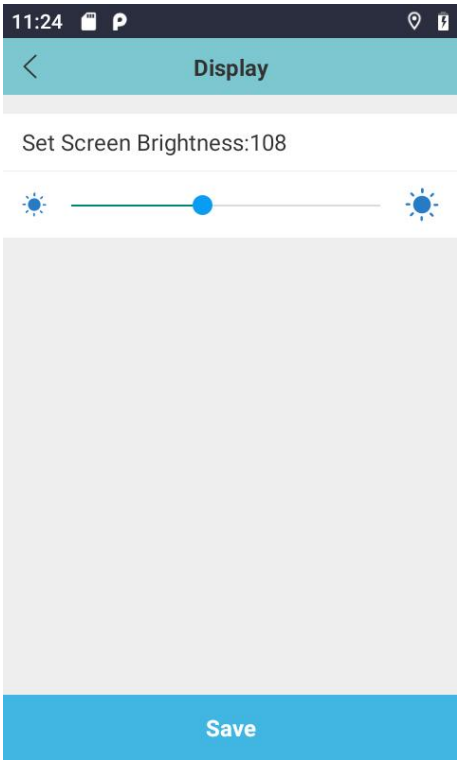

Figure 6.103
- 1) Display: Tap “Display” to access screen display settings, as shown in Figure 6.103. Adjust screen brightness using the slider; changes take effect immediately. If no user interaction occurs, brightness will automatically reset to 50% after 1 minute.